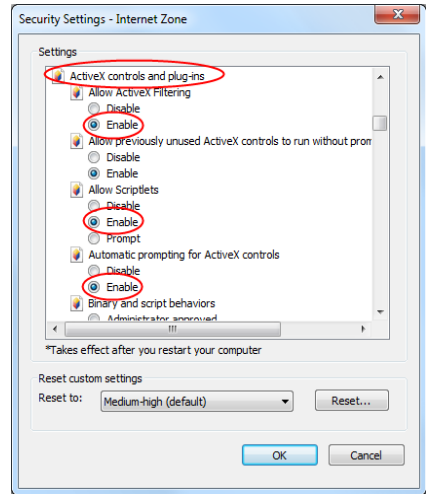

Fig 10-2
- ③ Enable all the sub options under “ActiveX controls and plug-ins”. Refer to Fig 10-2.
- ④ Click “OK” to finish setup.